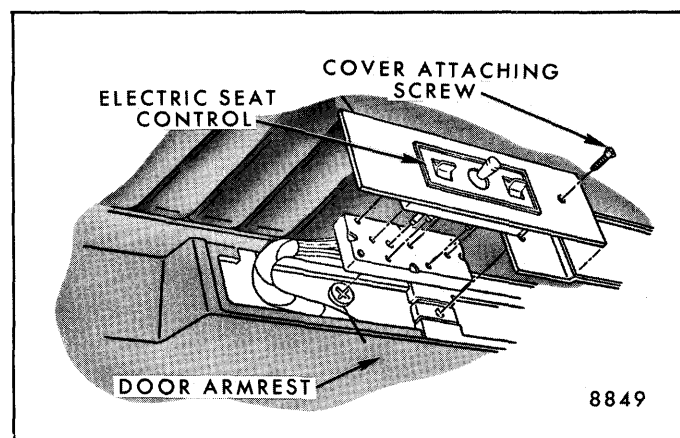

Fig. 5-3-Front Seat Adjuster Control Cover Plate
1. Remove one (1) seat adjuster cover plate attaching screw and disconnect power connector (Fig. 5-3).